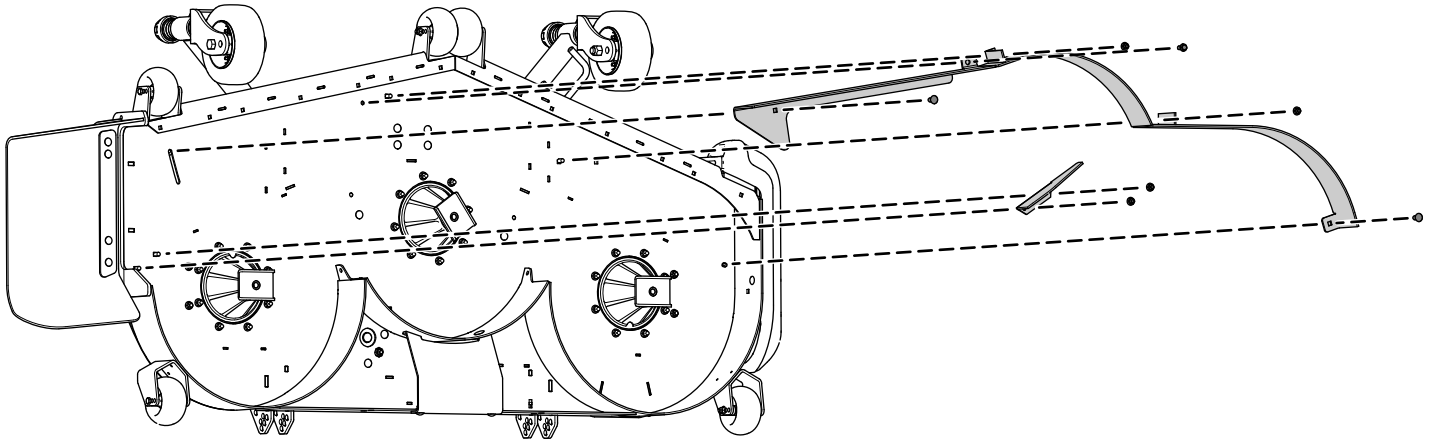

Figure 1
1. Remove the 2 flange nuts that secure the baffles in place (Figure 1).
2. Remove the 2 bolts and 2 nuts from the adjustable flow baffle (Figure 1).
3. Remove the 3 bolts and 3 nuts that secure the baffles in place (Figure 1).